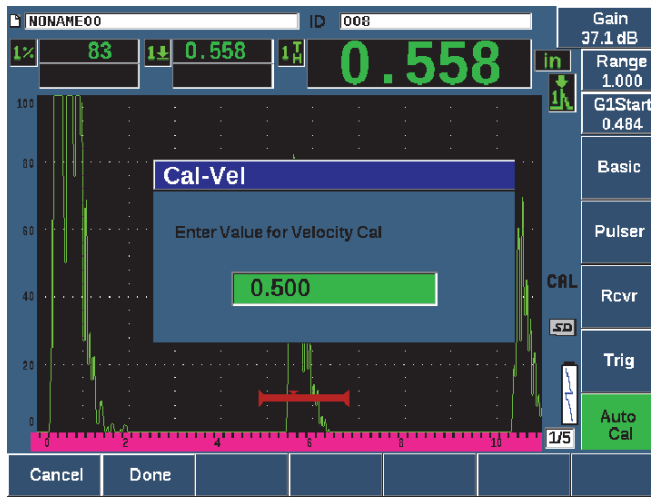

Figure 3-16 The Velocity Cal value
13. Use the knob or arrow keys to adjust the displayed value to the appropriate thickness. For this example, the transducer is coupled to a 12.5 mm (0.500 in.) step (see Figure 3-16 on page 78).